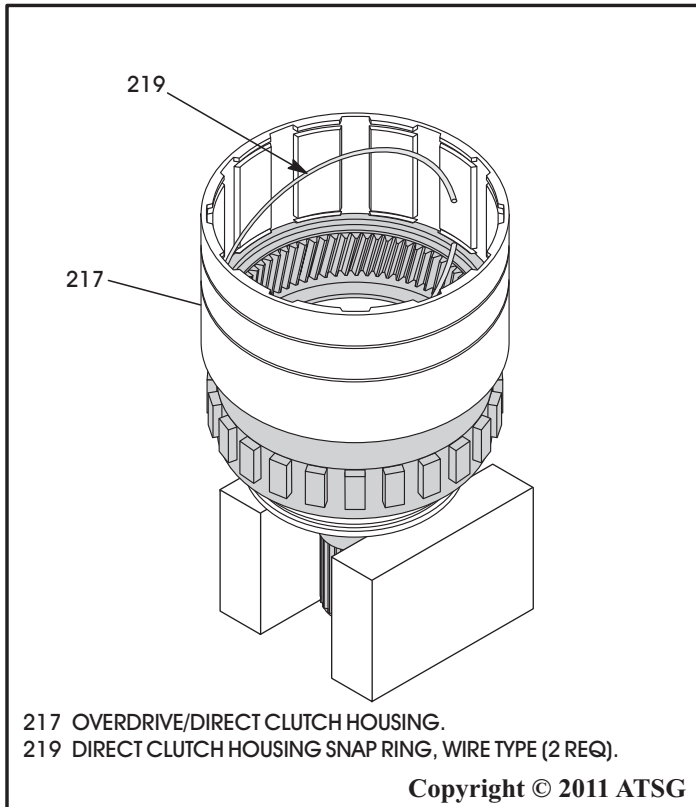

Figure 163
32. Remove upper "wire type" snap ring retaining the overdrive direct clutch housing to overdrive ring gear, as shown in Figure 163.